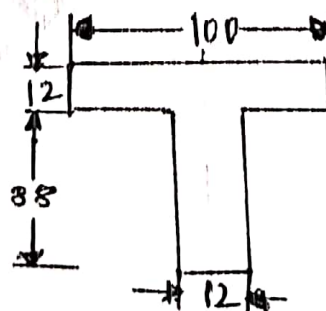

Fig.Q6(b) All dimension are in mm
- b. Fig.Q6(b) shows the cross-section of a beam which is subjected to a shear force of 20 kN. Draw shear stress distribution across depth marking values at salient points.